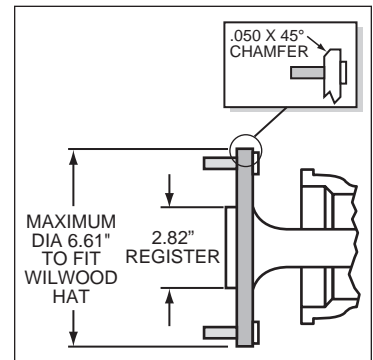

Figure 3. Axle Flange Maximum Dimension
- Axle center register diameter is 2.82", Figure 3
- Maximum axle flange diameter must be no larger than 6.61" w/.050" x 45° chamfer, Figure 3.